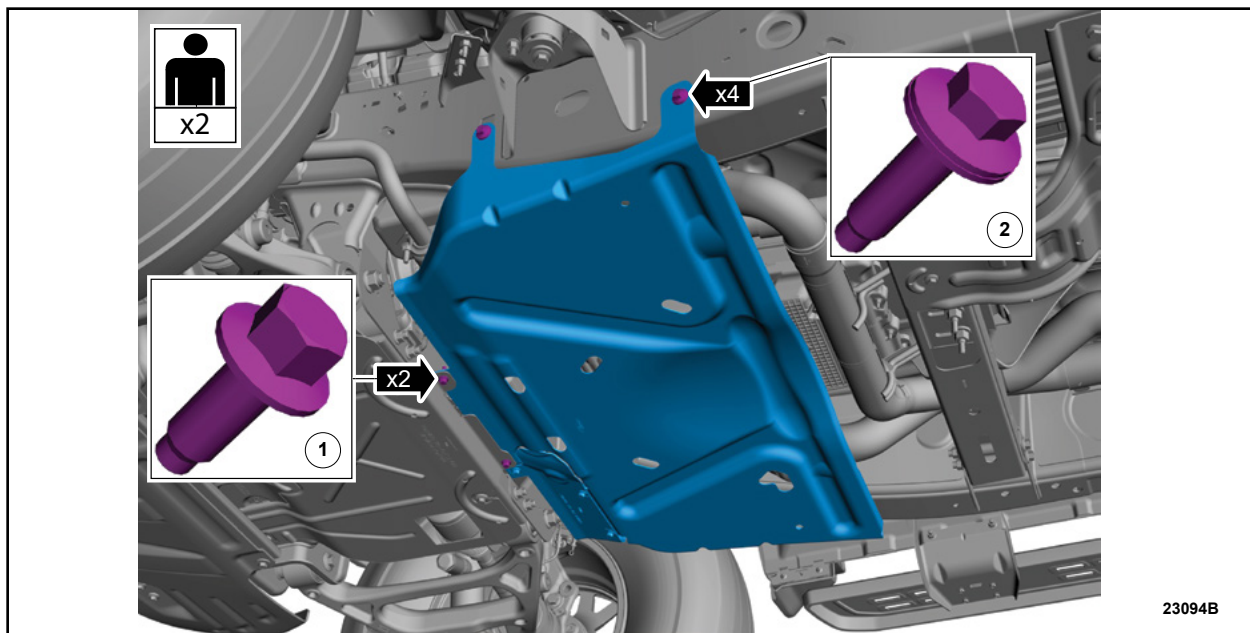

FIGURE 1
2. Using the aid of another technician, remove the Raptor - 5.2L Engine Rear Undershield securing bolts. Refer to WSM Section 501-02 and Figure 1.